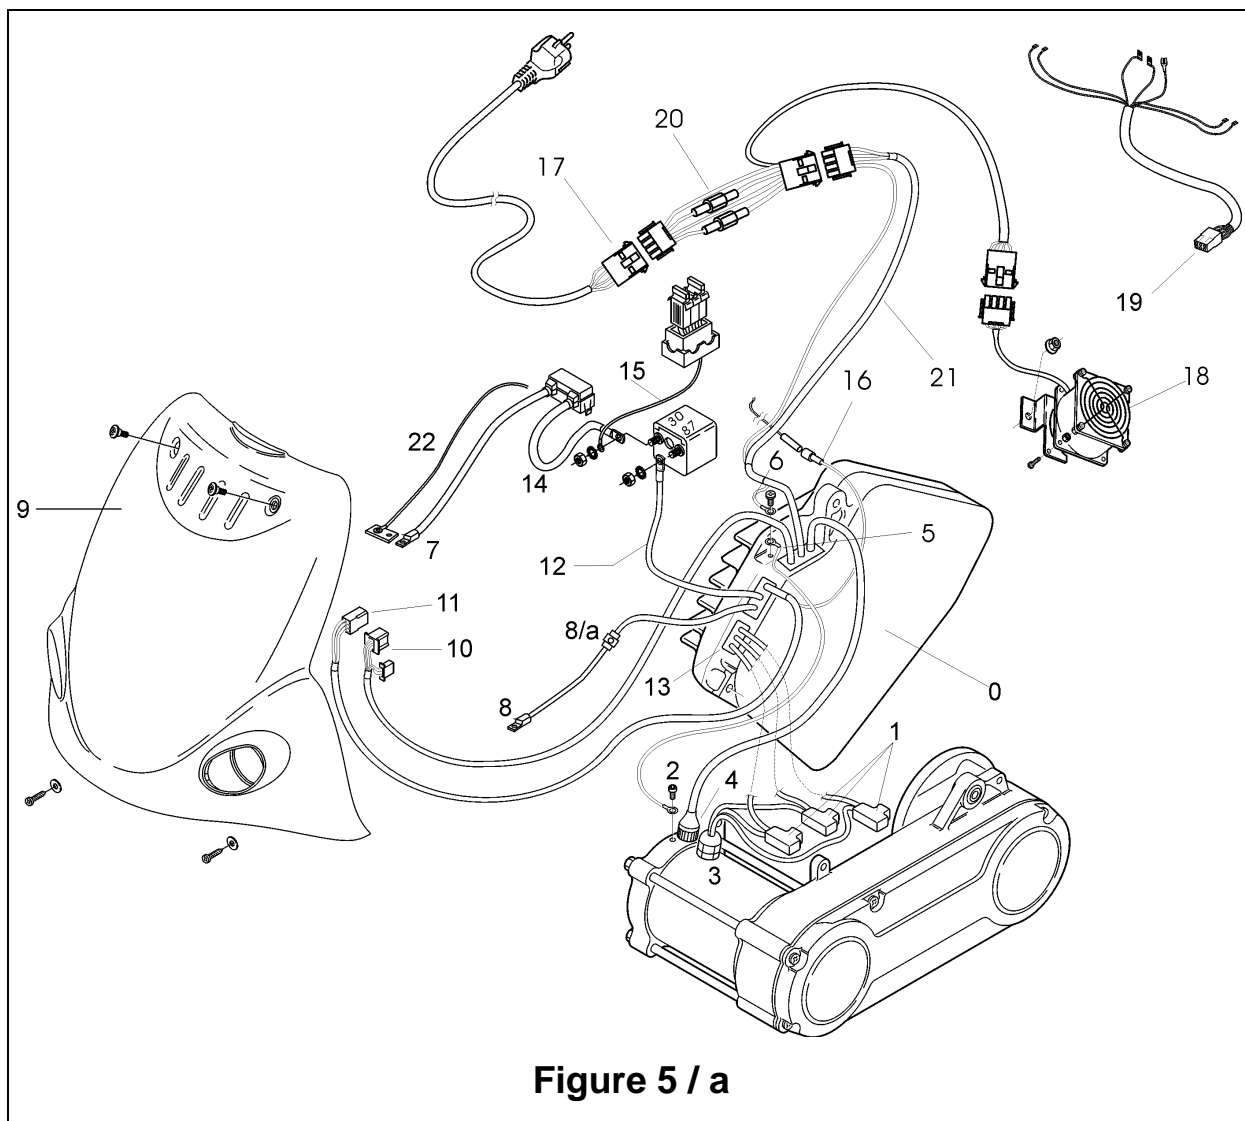

Figure 5 / a
- Remove the helmet storage compartment, being careful to disconnect the battery recharger plug (17 - Figure 5) and the connector of the rear light system (19 - Figure 5).
- Cut the thermal sheath from the Z10-1 connectors (1 - Figure 5);
- Unscrew the 3 connectors in order to pull out and disconnect the power cables (1 – Figure 5);
- Disconnect the ground cable (yellow/green) from the motor case (2 - Figure 5);
- Pull out the signal connection cable with the corresponding connectors from the hole in the motor flange (4 - Figure 5).
- Connect the cable with the connector to the top of the motor frame(4 - Figure 5);
- Connect the ground cable (yellow/green) (2 - Figure 5);
- Connect with the Z10-1 clamps the motor power cables(Black / Red / Green) to the cable coming out of the DRIVE (Black / Brown / Blue) (1 - Figure 5);
- Mount the helmet storage compartment supply to connect the battery recharger plug (17 – Figure 5) and the connector of the rear light system (19 – Figure 5);
- Open the battery compartment and disconnect the positive poles (7 - Figure 5) and the negative poles (8 - Figure 5) (10 mm² section) from the battery group;
- Remove the helmet storage compartment, carefully disconnecting the battery recharger plug (17 - Figure 5) and the connector of the rear light system (19 - Figure 5);
- Remove the cooling fan (18 - Figure 5);
- Cut the heat-restringent covers from the Z10-1 terminals (1 - Figure 5)
- Pull out the signal connection cable on the top of the motor flange(4 - Figure 5);
- Disconnect the ground cable (Yellow / Green) from where it is attached to the motor casing (2 - Figure 5);
- Remove the front shield unscrewing the 4 screws (9 – Figure 5). Disconnect the 3 connectors from the electrical system (10 / 11 – Figure 5) and cut the self-blocking band. These cables are connected directly with the DRIVE. Pull them with care following their runway site under the frame, in order to preserve the cable;
- RED wire (10 mm² section) from terminal 87 of the switch (12 – Figure 5);
- BLUE wire drive wire from the yellow wire of the scooter's electrical system (16 – Figure 5);
- Disconnect the cables from the DRIVE plug to the electric recharge system (21 – Figure 5) ;
- Remove all the 2 screws of the DRIVE, and remove the DRIVE (0 – Figure 5).
- Connect the signal cable from the drive in the appropriate connector on the top of the motor flange (4 – Figure5);
- Connect the ground cable (Yellow / Green) from DRIVE to the motor casing (2 - Figure 5);
- Connect the 2 signal cables with the electrical system into the front shield (10/11 – Figure 5), taking care that this cables should be insert and block to the frame (under the footboard, like originally). Blocking the 2 cables with self-blocking band;
- Positioning the NEGATIVE pole with the fastening clamp (8 – Figure 5) across the frame in order to bring near the NEGATIVE pole of the battery pack with the pin;
- Fixing completely the DRIVE to the frame brackets (0 – Figure 5), then fixing the cooling fan (18 – Figure 5) with the correct gradient;
- Open the battery compartment, remove the bar (4 – Figure 7). Remove the plastic protection of the battery pack, disconnect the POSITIVE pole (7 – Figure 5/a) from the batteries. NOTE: there is a temperature sensor mounting to an aluminum bar connect with the POSITIVE pole (22 – Figure 5/a). Taking care to remove the sensor.
- Remove the helmet storage compartment, carefully disconnecting the battery recharger plug (17 - Figure 5/a) and the connector of the rear light system (19 - Figure 5/a);
- Remove the cooling fan (18 - Figure 5/a);
- Cut the heat-restringent covers from the Z10-1 terminals (1 - Figure 5/a);
- Pull out the signal connection cable on the top of the motor flange(4 - Figure 5/a);